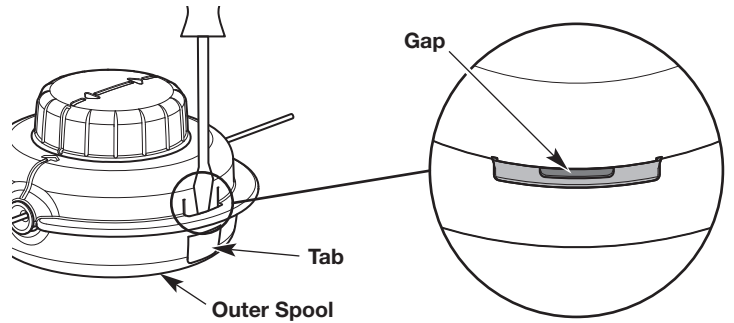

Fig. 23
- a. Firmly press a tab on the cutting head with your thumb (Fig. 23). **DO NOT** press the tab with a screwdriver or other object.
- b. Continue pressing the tab. Insert a flat-head screwdriver into the gap between the outer spool and tab (Fig. 23).